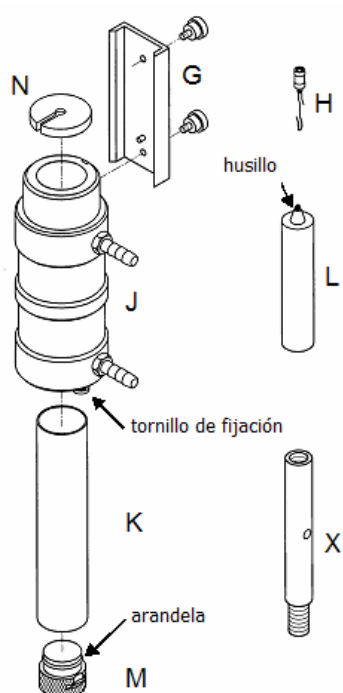

Fig. 7: LCP Spare parts
- Fasten the circulation jacket (J) to the connector (G) (figure 7).
- Fasten the connector (G) to the hole in the back of the viscometer's metallic base.
- Connect the hook (H) and the spindle (L)
- Insert the spindle (L) in the circulation jacket, and screw it with the viscometer axle by turning it clockwise.
- Close the sample (K) container with the stopper (M).
- Insert the container (K) to the lower part, in the circulation jacket (J).